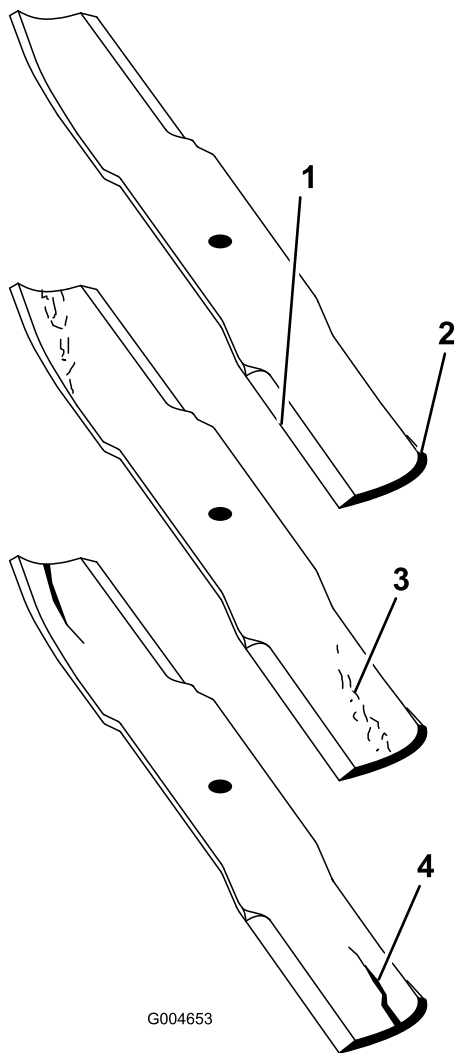

Figure 92
2. Examine the cutting ends of the blade carefully, especially where the flat and curved parts of the blade meet (Figure 92). Since sand and abrasive material can wear away the metal that connects the flat and curved parts of the blade, check the blade before using the mower. If wear is noticed (Figure 92), replace the blade.
If the blade is allowed to wear, a slot will form between the sail and flat part of the blade (Figure 92). Eventually a piece of the blade may break off and be thrown from under the housing, possibly resulting in serious injury to you or bystanders.